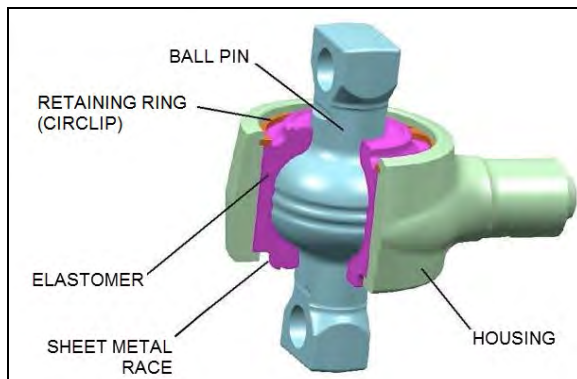

FIGURE 6: BALL PIN JOINT CONSTRUCTION
- Radial cracking of the external sheet-metal race (Figure 6 & Figure 7)